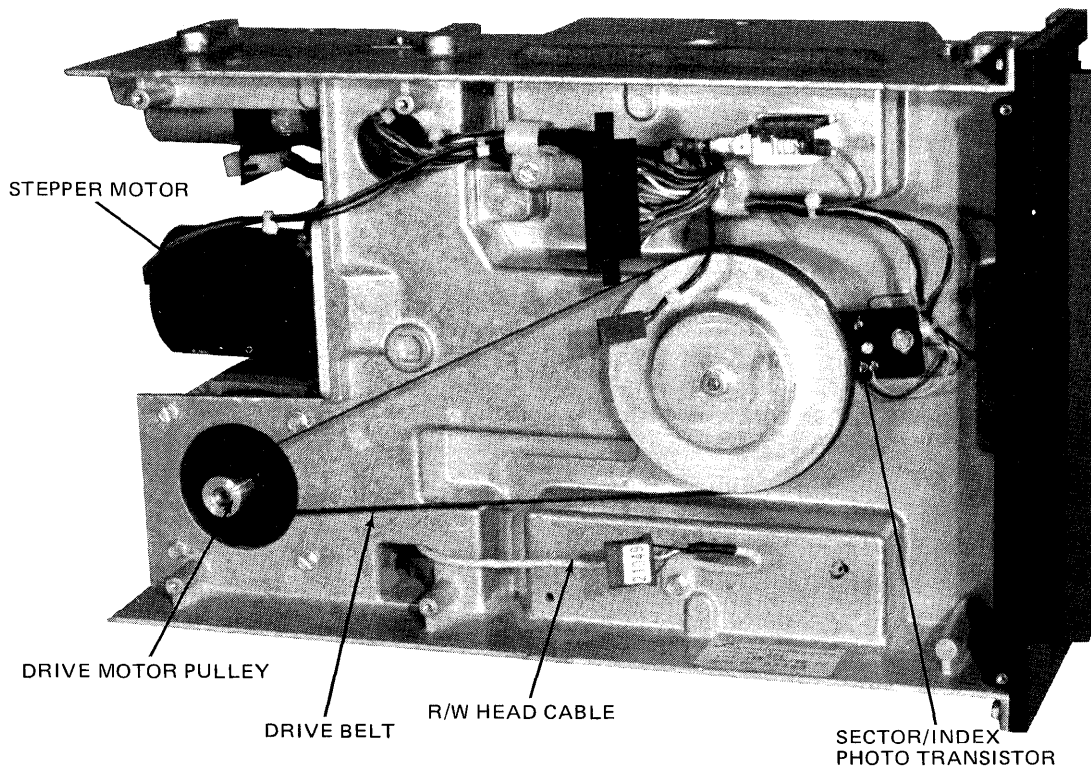

Figure 4-9. Inspecting Drive Belt.
3. Now you have clear access to the belt and both pulleys. Inspect the belt for frayed or weakened areas. Replace the belt, if necessary. (See Figure 4-9.)